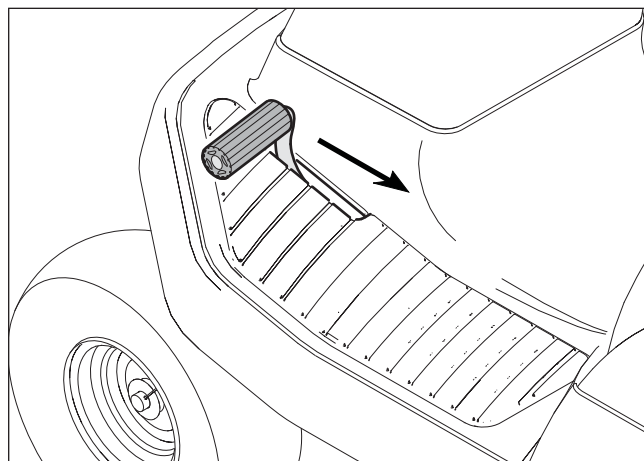

Figure 13
2. Slowly release your left foot from the brake pedal (see **Figure 13**).
1. Fully depress the clutch/brake pedal (see **Figure 13**).
1. Completely push the clutch/brake pedal forward to stop the unit (see Figure 13). Keep your foot on the pedal.